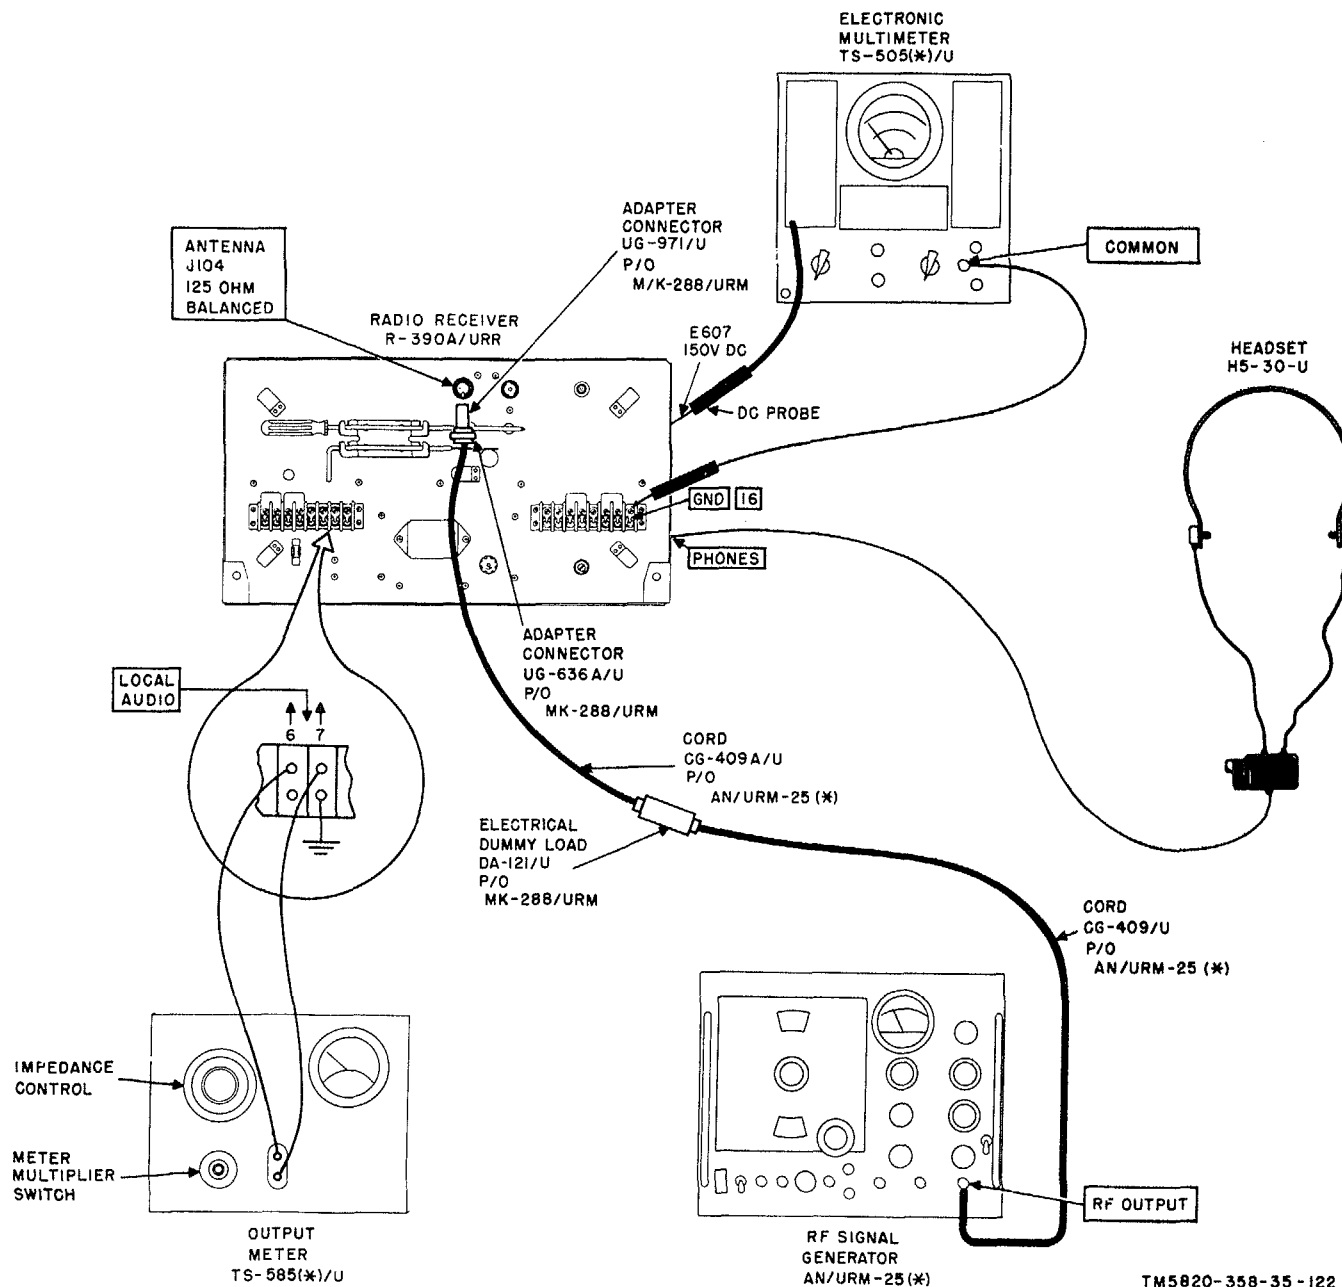

Figure 77. Sensitivity test setup.
(fig. 77)
b. Test Connections and Conditions. Connect the equipment as shown in figure 77. Do not connect the TS-505(*)/U until instructed to do so in the Test procedure column.